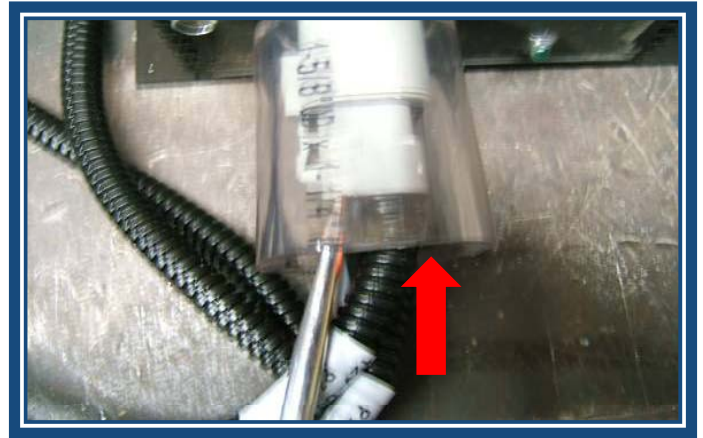

Figure 10
Step 10: Connect the Deutsch connector to the Trail Charger. It may be necessary to use a screwdriver to make sure it is properly seated. (See Figure 10)